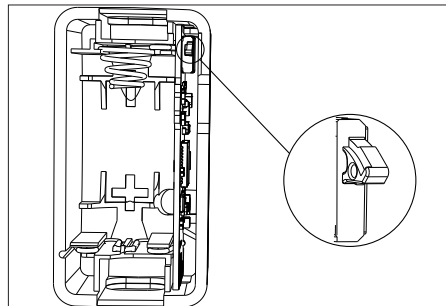

Figure 6.1: Tamper switch
2. Push and hold the tamper switch, and reinsert the battery. When the green LED turns on, release the tamper switch before the green LED turns off (within 4 seconds). Refer to *Figure 6.1*.